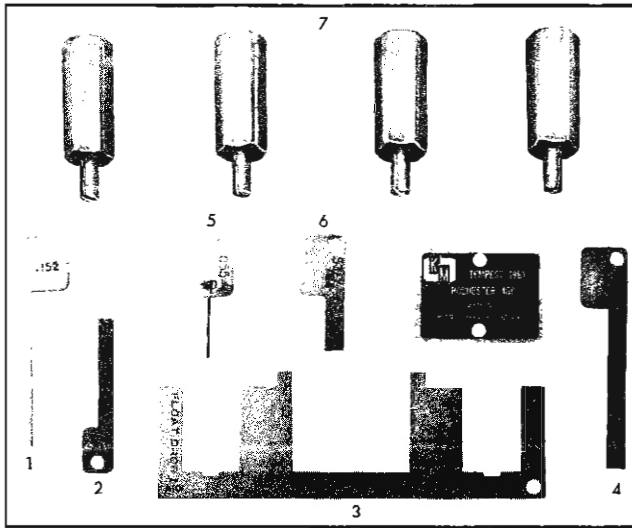

Fig. 6B-61 Special Tools J-9192
1. With the choke valve held wide open and the fast idle cam and secondary lockout tang positioned as shown (Fig. 6B-60), there should be a clearance of .015" between the cam and the tang four cylinder, .030" eight cylinder.